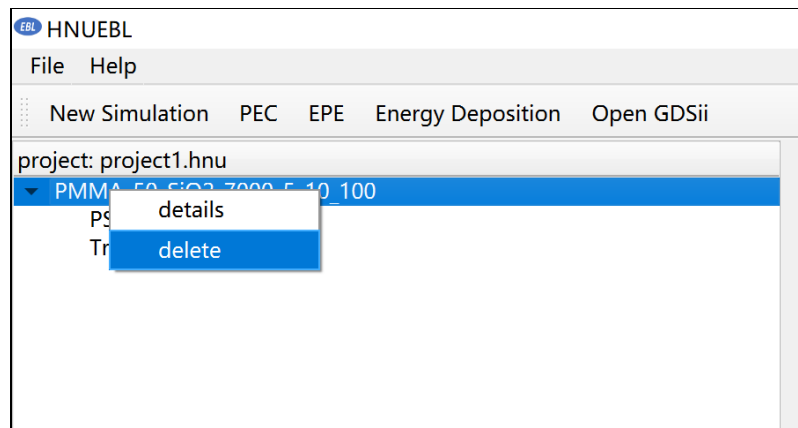

Figure 2.3.4 Delete MC simulation result
- 4) You can right-click the MC simulation result on the left and left-click "delete" to delete the MC simulation result (Figure 2.3.4).